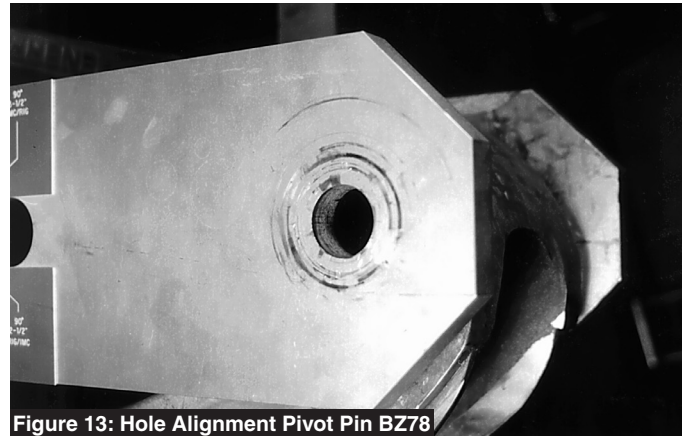

Figure 13: Hole Alignment Pivot Pin BZ78
5. Move the bend shoe to align the pivot hole with the hole in the bottom frame. If the shoe is too far away, start the hydraulic pump. Advance the cylinder until the pivot hole is located under the frame hole. Install the pivot pin (BZ78). Figure 13.